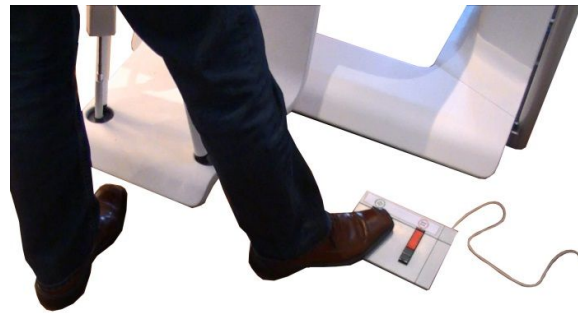

Fig. 32
- Start recording by pressing the “OK” with the foot pedal (fig. 32).